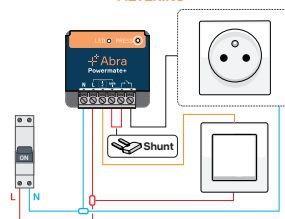

Figure 1
- 3 Wire the Powermate+, following the diagram figure 1.